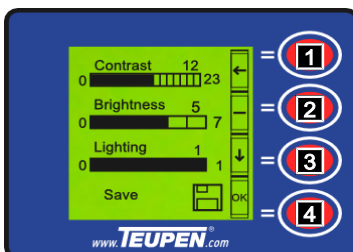

Fig. 90
1. Select the desired setting with the [function keys] (Fig.90/2 and 3).
2. Use the [function key] (Fig.90/4) to confirm the selected setting.
3. [Function key] (Fig.90/2) increases the desired setting's value. [Function key] (Fig.90/3) reduces the desired setting's value.
4. Use the [function key] (Fig.90/4) to confirm the value.